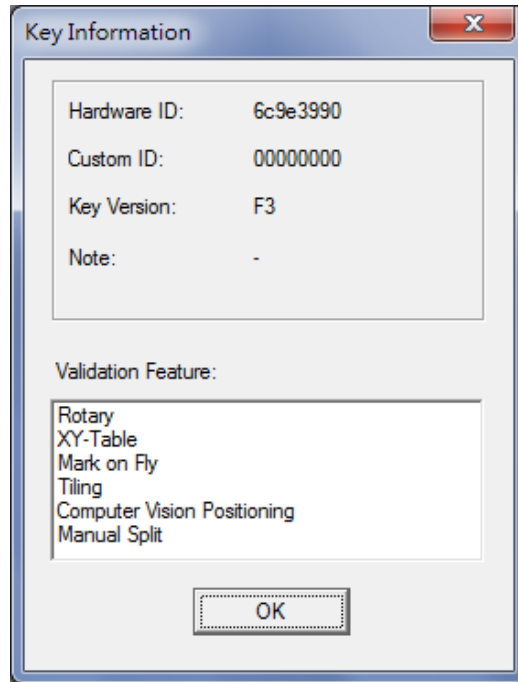

Fig. 1.9.01
**Key Information** The key version and content, see Fig.1.9.01.